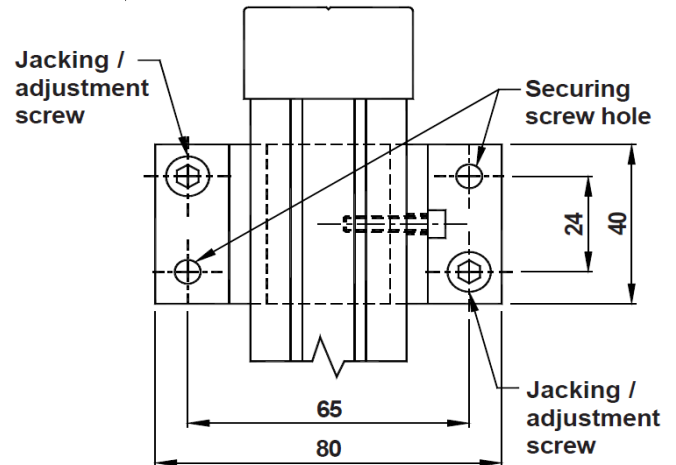

Figure 2
2.6. Any rotational / lateral adjustment may be achieved via the M6 jacking screws, adjacent to the securing screws on the mounting bracket body. See figure 2 and 3
3.5. Any rotational / lateral adjustment may be achieved via the M6 jacking screws, adjacent to the securing screws on the mounting bracket body. See figure 2 and 4.